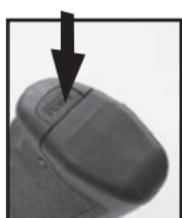

Fig. 3
- Push the button on the bottom of the grip. (Fig. 3).